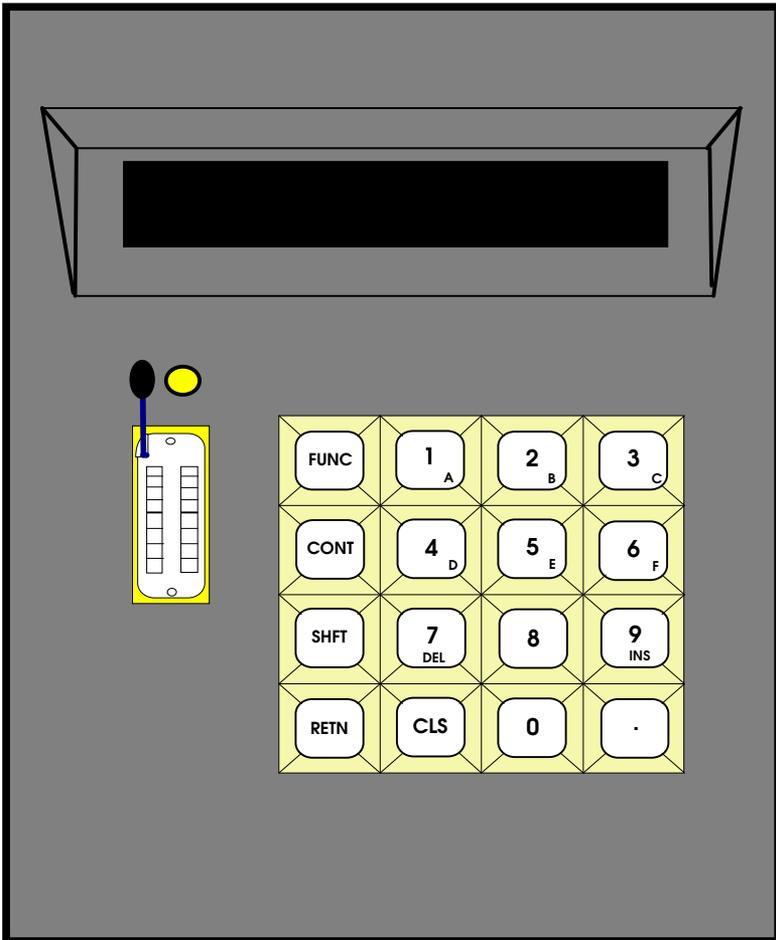

Figure 1 - MGP 300 Programmer (top view)
The MGP 300 Programmer is used to program the personality EEPROM inside the Monogram Series MGP 300 Portable radio. The programmer is operated from a keyboard and the program is displayed on an alphanumeric display. See Figure 1.
The Programmer is operated from the sixteen (16) keys which comprise the keyboard. These keys consist of the digits "0" through "9", "CLS", decimal point ".", return "RETN" and three alternate mode keys: (FUNC), (CONT) and (SHFT). Refer to Figure 1 for location.